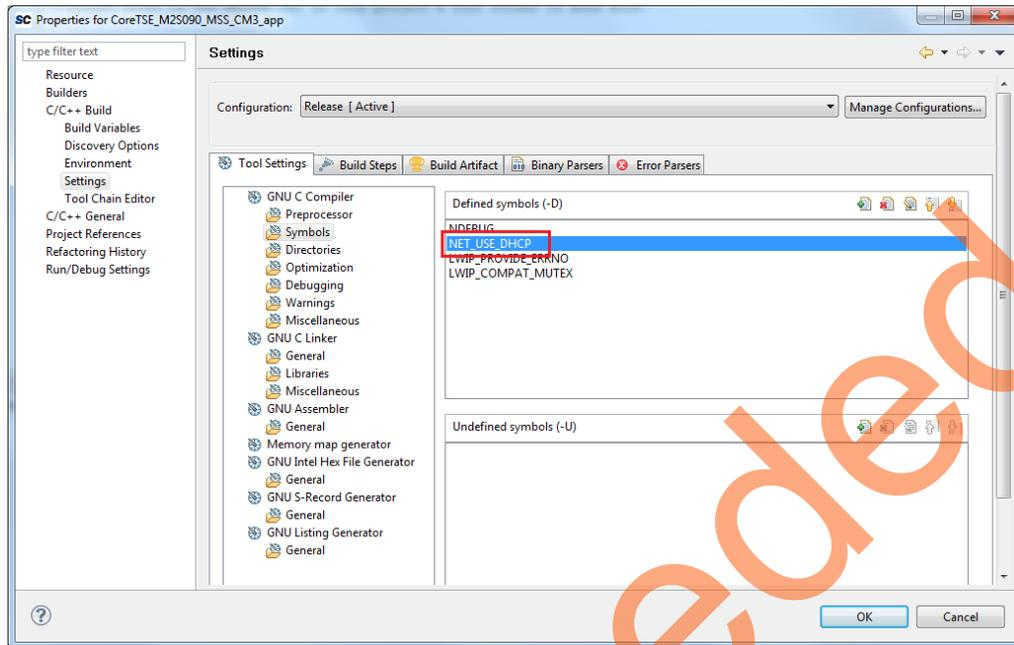

Figure 2 • CoreTSE_M2S090_MSS_CM3_app Properties Window
- Remove the symbol `NET_USE_DHCP` in **Tool Settings** of the **Properties** for `CoreTSE_M2S090_MSS_CM3_app` window, as shown in Figure 2.